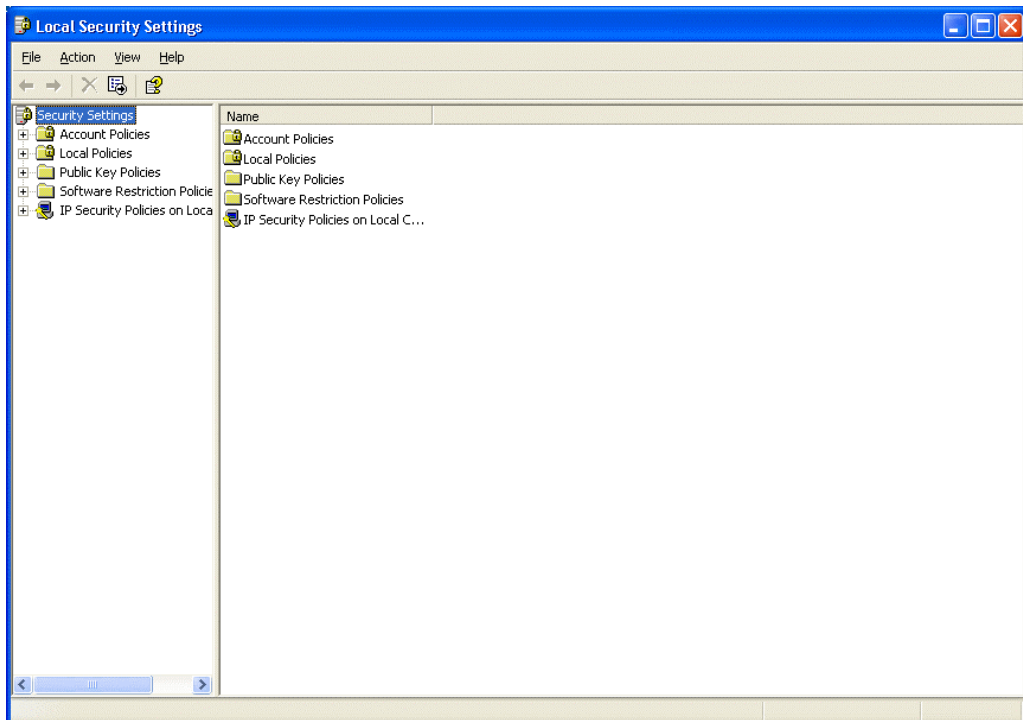

Fig. 6.3-13 Local Security Settings Window
4. Double click on **Local Security Policy**. (Shown in Fig. 6.3-13.)